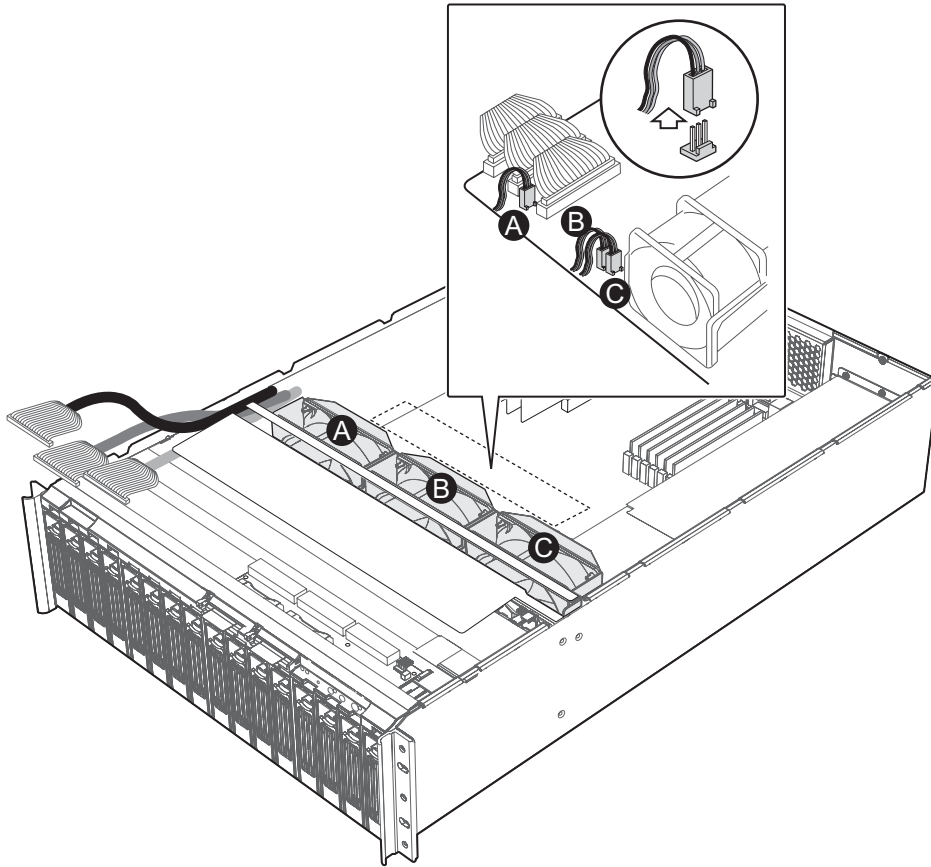

Figure 5. Removing Fan Connectors from the Baseboard
- A. Remove the wire connector for Fan 3 from the baseboard header labeled J2K1. See Figure 5.
- B. Remove the wire connector for Fan 4 from the baseboard header labeled J4K2. See Figure 5.
- C. Remove the wire connector for Fan 5 from the baseboard header labeled J4K4. See Figure 5.